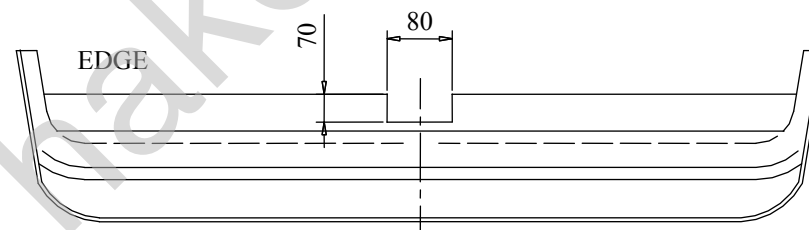

Fig. 2
3. Position the main bar of the towbar (pos. 1) to chassis members and fix it through the original holes using bolts M10x1,25x35mm (pos. 7).
4. Through the hole (pos. A) and original towing eye fix using bolt M12x120mm (pos. 6) together with washers (pos. 5) and distance sleeve $\varnothing 25 \times \varnothing 13 \text{mm}$, L=59mm (pos. 4).
5. Cut the bumper according to the fig.2, then reassemble it.